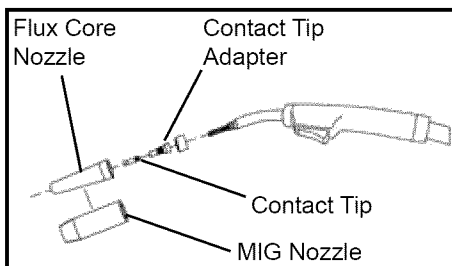

Fig. 3
2.1 Remove the nozzle and contact tip from the end of the torch assembly. (Fig. 3)
2.21 Install the appropriate nozzle on the torch assembly (Fig 3).